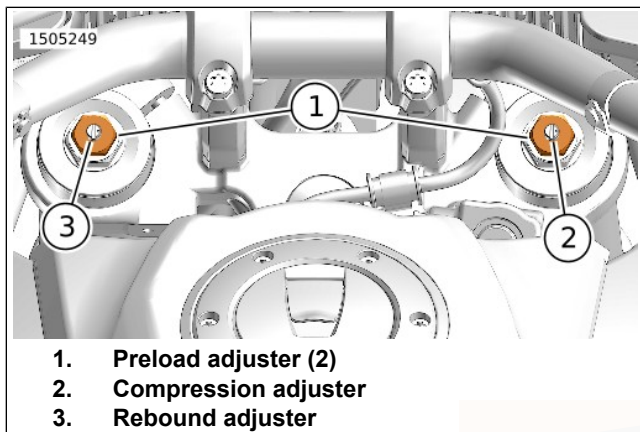

Figure 18. Front Suspension Adjusters
See Figure 18. The compression adjuster (2) screw is located on the top of the right side fork tube.
See Figure 18. The rebound adjuster (3) screw is located on the top of the left side fork tube.
See Figure 18. The preload adjuster (1) is located on the top of each fork tube.